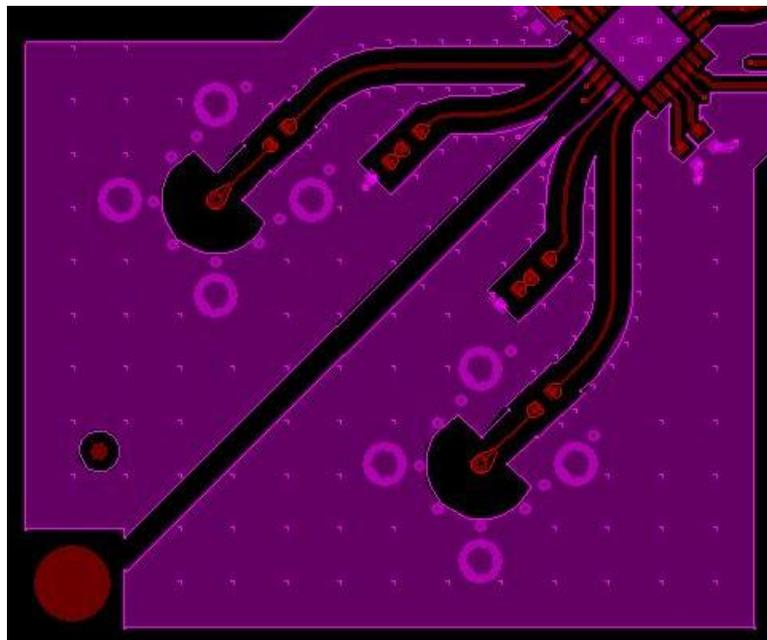

Figure 5. LMH1297 Through-Hole Microstrip Example
3. Use a micro-strip PCB layout with ground stitching and ground flooding to isolate the driver and equalizer from one another. Figure 5 shows an example of a micro-strip PCB layout with ground stitching and GND flooding to isolate LMH1297 input pins 1 and 2 from output pins 7-8.